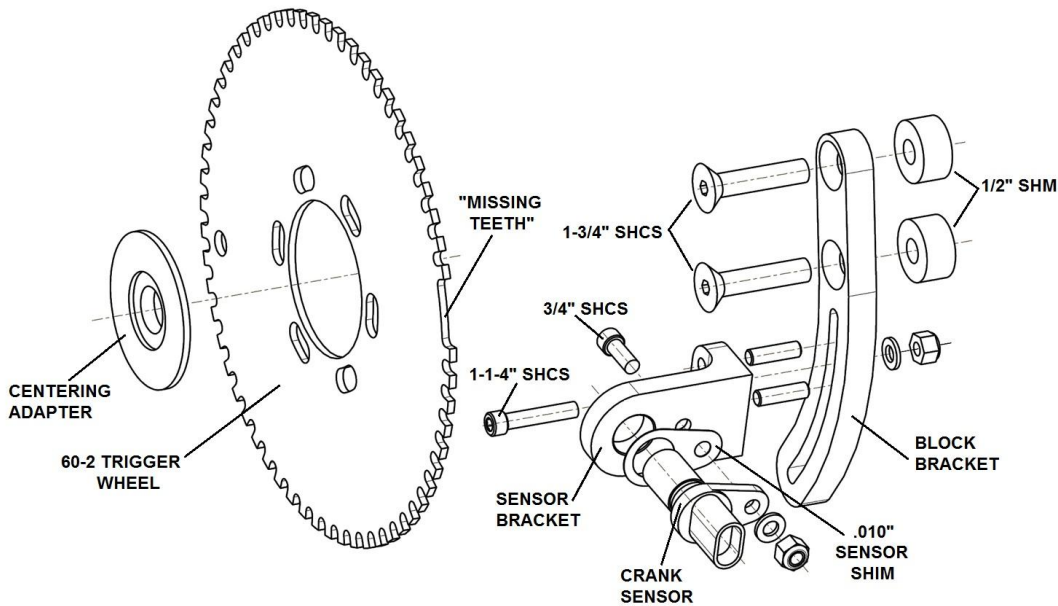

Figure 1
2. Using the 3/4" long socket head cap screw, washer and locknut, install the crank sensor to the sensor bracket using one .010" shim. Note the proper orientation of the sensor and sensor bracket in **Figure 1**.
3. Using the 1-1/4" long socket head cap screw, washer and lock-nut, install the sensor and bracket assembly to the block bracket as shown in **Figure 1**. The dowel pins will help align the sensor bracket. It is possible that the sensor will interfere with the trigger wheel. If it does, add more .010" shims as needed to obtain a .020"-.035" air gap.